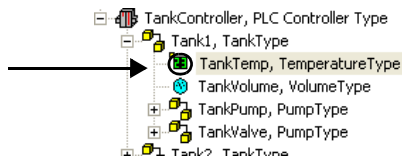

Figure 34. Icon Indicating Individual Signal Settings
11. The  icon indicates that the process signal now has individual signal settings as shown in Figure 34.